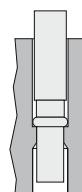
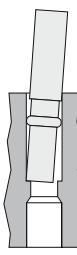

Fig. 2 – correct
Fig. 3 – incorrect
- Place the crimped contact partially in the moulding – this should leave 1.5-2mm of crimp protruding from the moulding. It is important that the correct position is found (Figure 2), otherwise the retention shoulder inside the moulding will get removed when force is applied, and the crimp will not stay in the moulding (Figure 3).